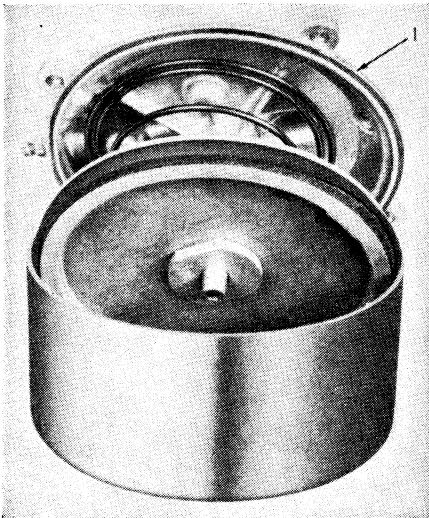

Fig. 64 Assembly of vacuum
Fig. 64. Place gasket (1) on end plate. The rubber ring gasket furnished in the repair kit is for use with Hydrovacs having a gasket retaining groove in the end plate; if the end plate is not grooved, use Vellumoid gasket of the correct size. Dip piston leather in vacuum cylinder oil and allow excess to drain off. Coat inside of cylinder shell with vacuum cylinder oil. Insert piston into cylinder by tipping piston as shown. Line up end plate with scribed marks previously made before disassembly. Attach hook